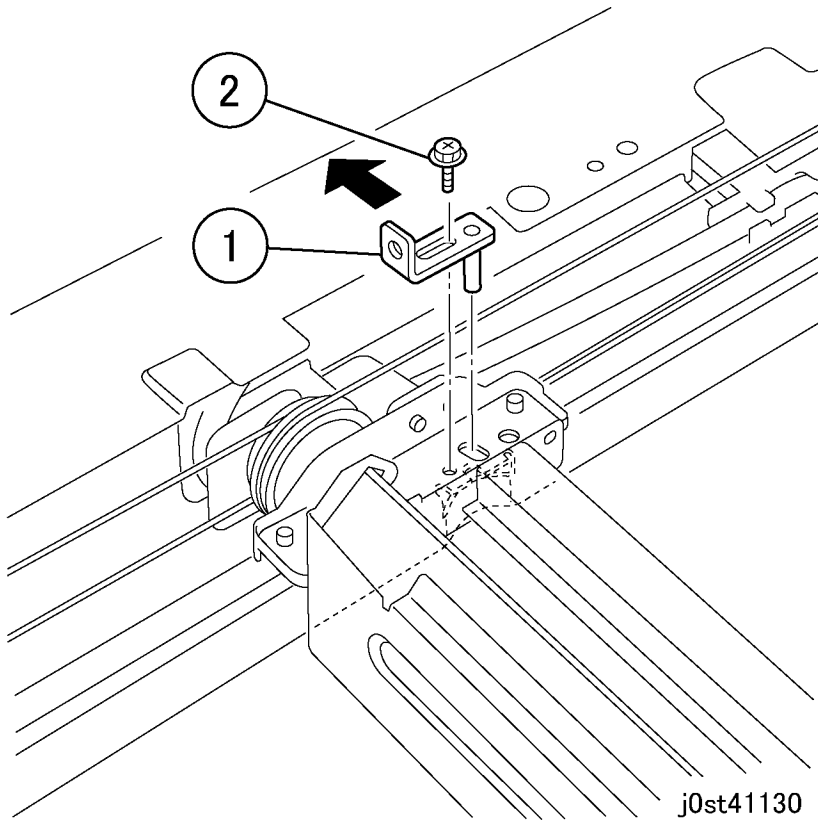

Figure 4 Position Adjustment of Half Rate Carriage 2/3 (j0st41130)
6. Fix the tool to the Half Rate Carriage. (Figure 4)